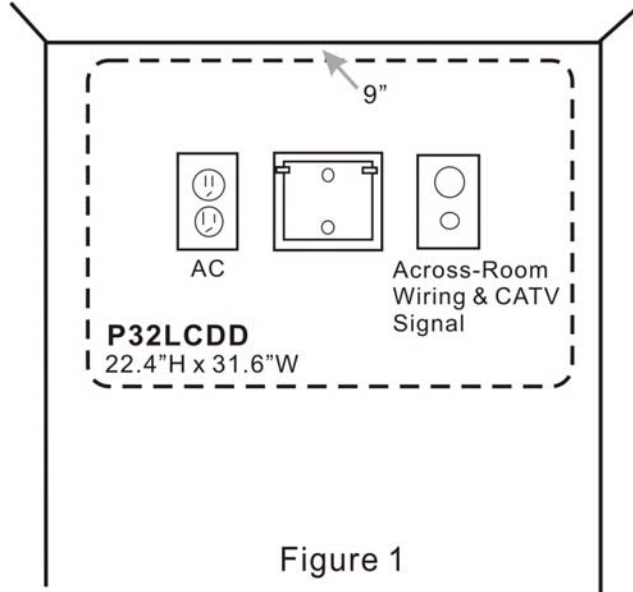

Figure 1
1. Refer to Figure 1. Select a location on the wall approximately 9 inches below the ceiling. NOTE: Do not locate AC, Across-Room Wiring, and CATV Signal outlets below the Wall Bracket's location as it will cause clearance issues and interfere with the TV's cabinet when mounted to the bracket. Position the Wall Bracket and locate two mounting holes. Secure the bracket to the wall (mounting hardware is not included).